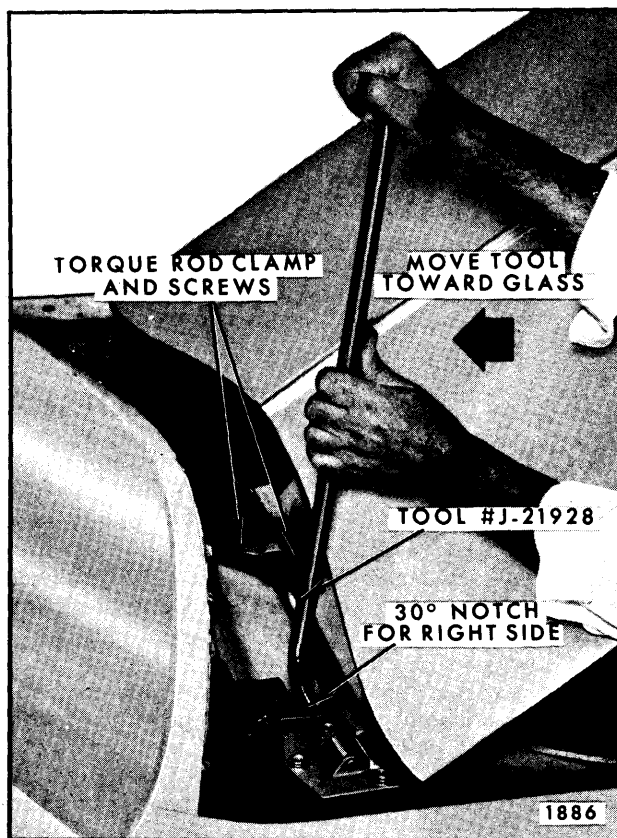

Fig. 5-26—Torque Rod Removal - Right Side
5. Remove torque rod clamp to shroud, located right of center of shroud (Fig. 5-26).
6. Install tool J 21928 (Fig. 5-26) to lid torque rod on right side of body. Securely grasp tool and move it toward windshield to disengage rod from retaining notch. Carefully disengage tool from rod.